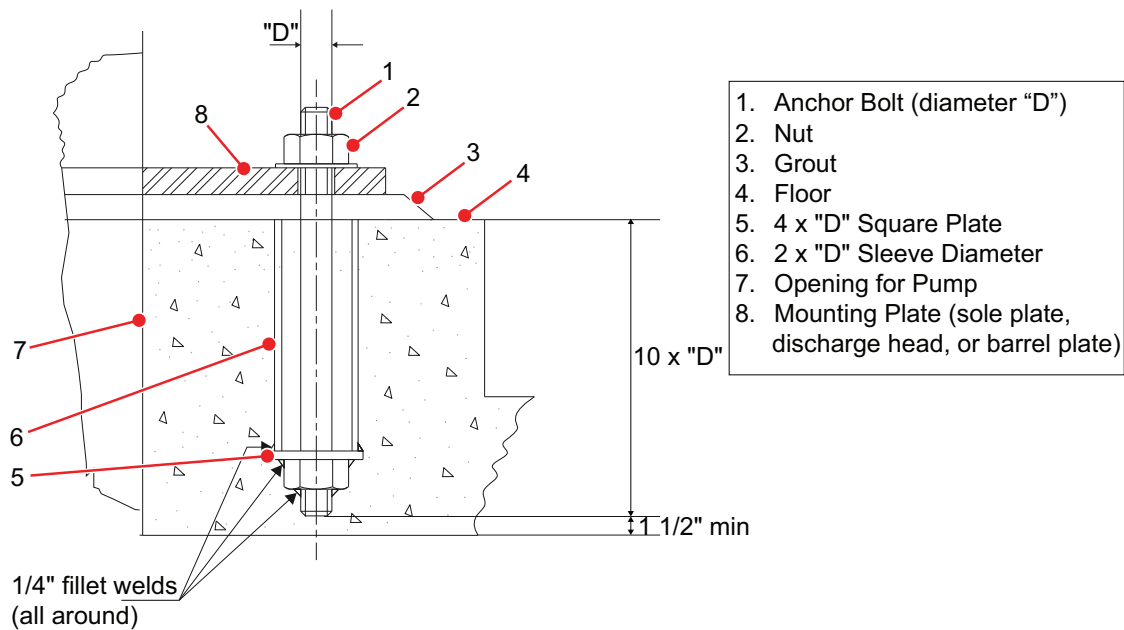

Figure 5-1: Recommended Anchor Bolt Arrangement
- It is recommended that concrete foundations have anchor bolts installed in sleeves twice the diameter of the bolt to allow alignment with the holes in the mounting plate as illustrated in Figure 5-1 on page 20, however, sleeves are not required and anchor bolts may be directly installed in concrete.